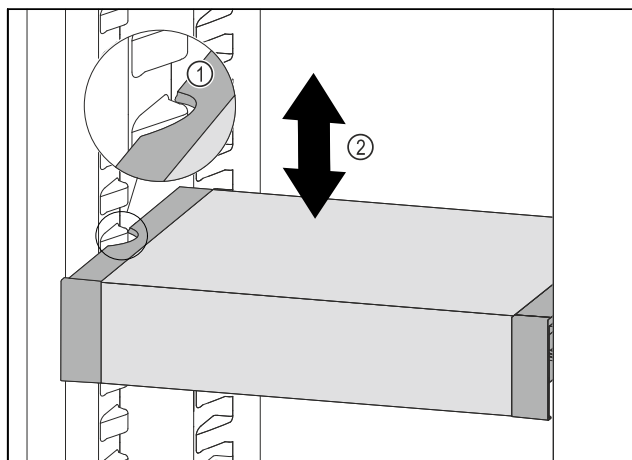

Fig. 100
- Pull VarioSafe forwards until the recesses in the side of the VarioSafe are at the level of the support rib in the refrigerator compartment. *Fig. 100 (1)*
- Move VarioSafe up or down in the refrigerator compartment until the desired height is reached. *Fig. 100 (2)*